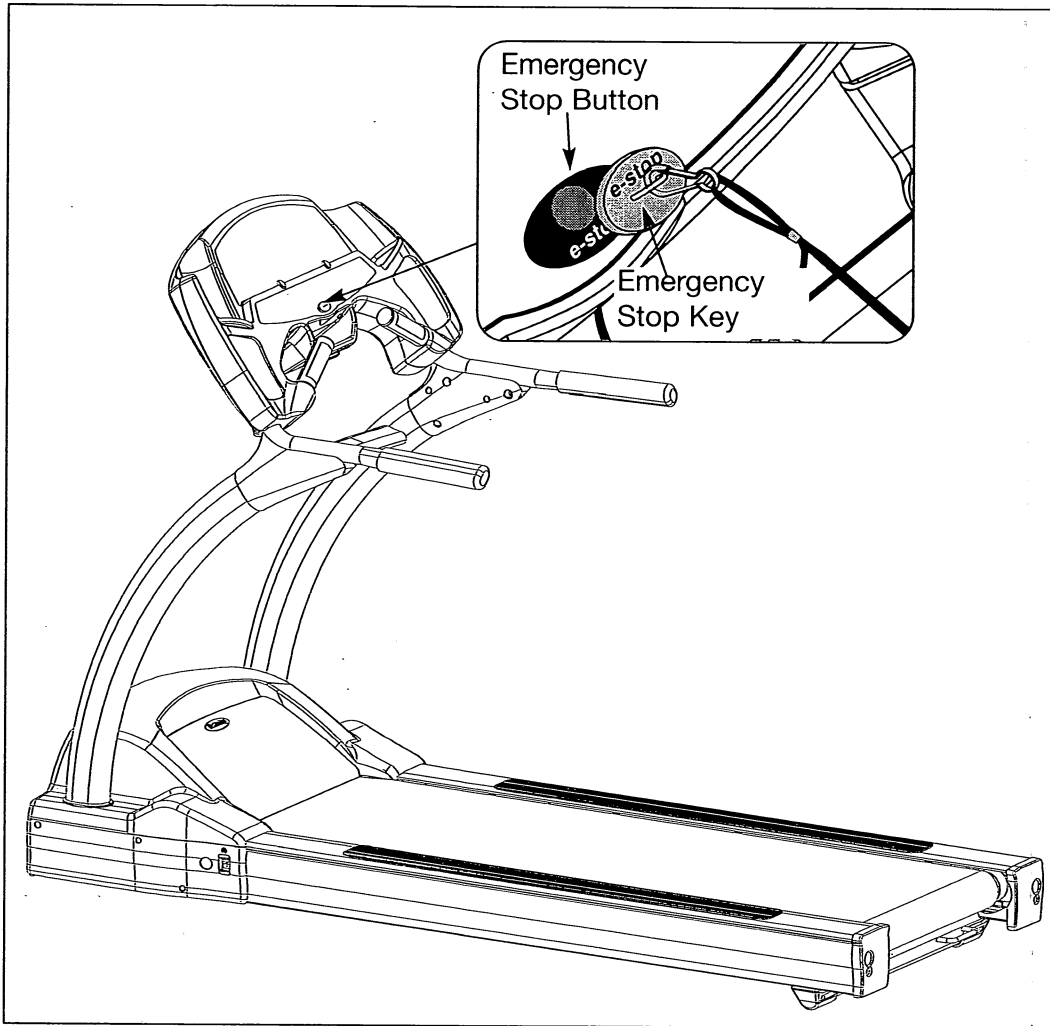

Figure 13
- A. Confirm that the emergency stop key is in place over the e-stop button. See Figure 13.